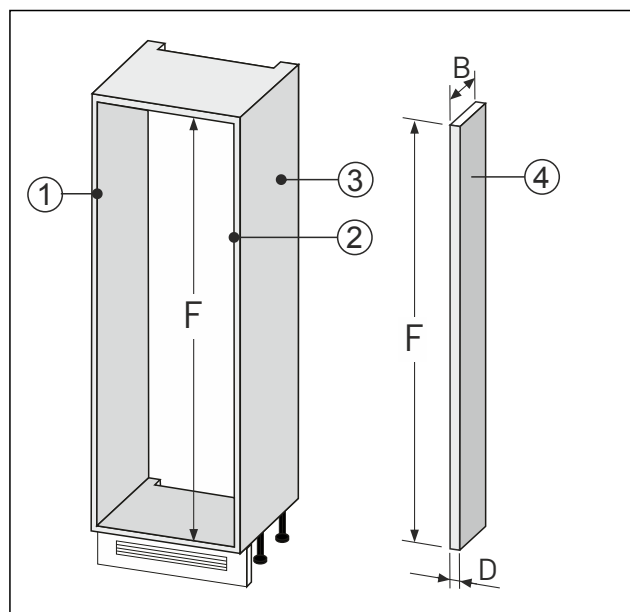

Fig. 92
- Construct the wall levelling Fig. 92 (4) in accordance with the dimensions given above.